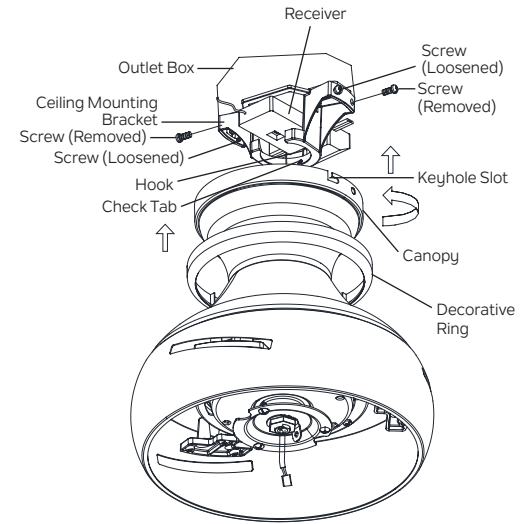

Fig. 17
**Step 2.** At the top of the ceiling mounting bracket, there are 4 preinstalled screws (2 on each side). On each side of the ceiling mounting bracket, loosen the first (left) screw just enough so that the screw will be able to lock into a “keyhole” slot in the canopy. Remove the second (right) screw. **(Fig. 17)**
**Step 4.** Reinstall the 2 screws that were removed into the aligned holes in the canopy and the ceiling mounting bracket. Tighten all 4 screws to secure. **(Fig. 17)**